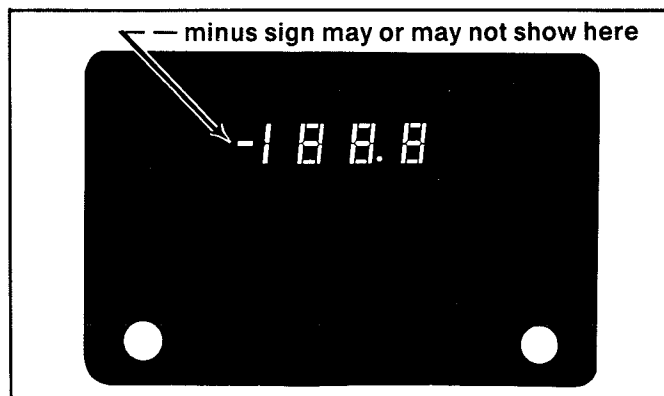

Figure 10. Correct digital display when the 23L is in the STANDBY mode.
1. Set the RUN/STANDBY switch to STANDBY. The digital display should read 188.8. In some cases, a minus sign will show or flash (Figure 10).